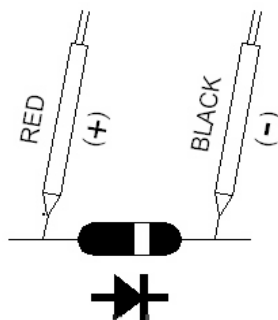

Fig. 2
- 4) a. When connected with polarity as shown in Fig. 2, a forward current flow is established and the approx. Diode Forward Voltage (VF) value in volt will appears on the display reading. If the diode under test is defective, ".000 " or near ".000 " value ( short circuit ) or ".OL " ( open circuit ) will be displayed.